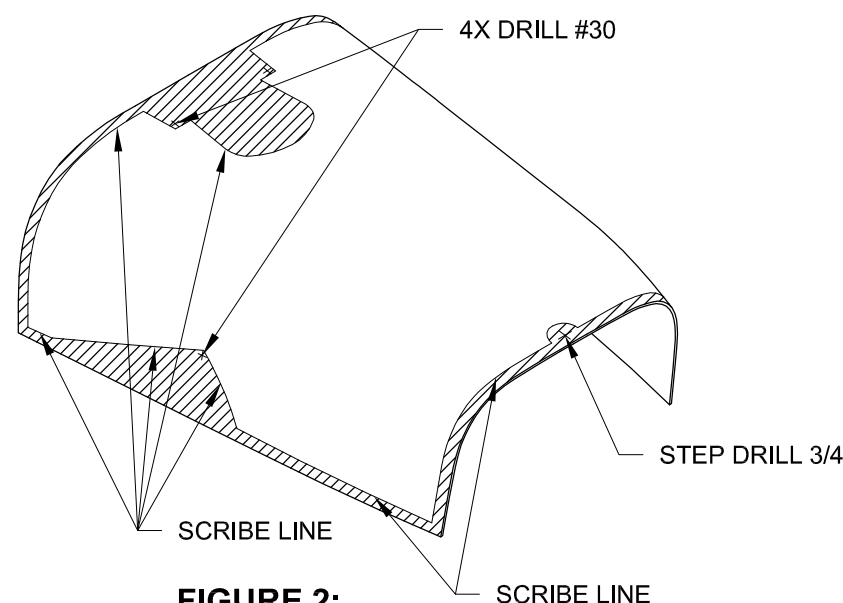

FIGURE 2:
Step 2: Drill a hole using a step drill bit in the F-1294A as shown in Figure 2. Drill two holes in each side of the upper tailcone fairing at the locations shown in Figure 2. Place the perimeter of the hole as close to the scribe line as possible.
Step 3: Trim excess material from the F-1294A as shown in Figure 2. Cut close to the scribe line, then use a sanding block to finish the edge to the scribe line.